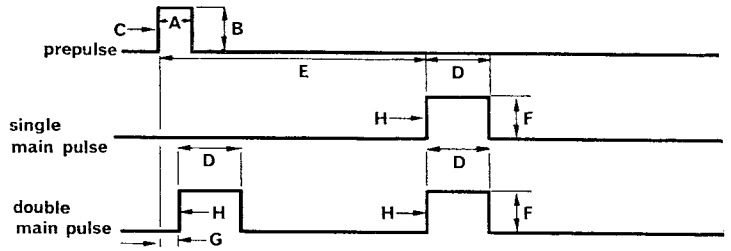

Fig. 16. Output waveforms CT564
34. **CT564 controls.** In addition to the normal pulse generator controls the CT564 is fitted with a calibrated pulse delay control. The output waveform is shown in figure 16.